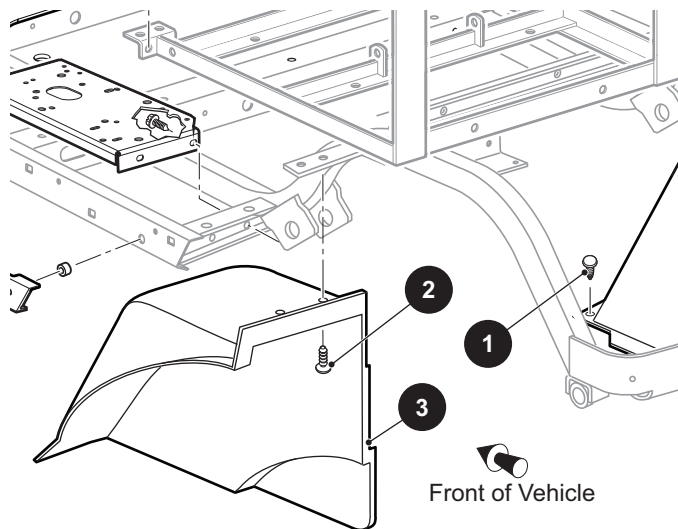

Figure 10 Rear Fender Replacement
2. Remove two ratchet rivets (1) securing rear fender (3) to bottom of the frame (Figure 10).
3. Remove two ratchet rivet (2) securing rear fender (3) to the frame at the top.